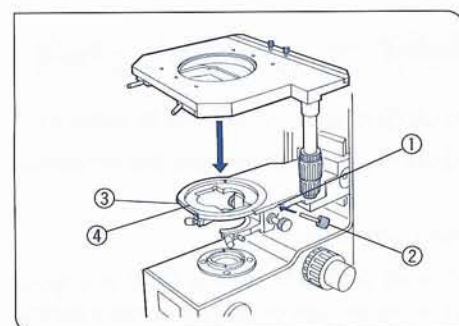

Fig. 3
3 Attaching the Stage Plate (Figs. 3, 4, 5)
- 1. Adequately loosen in a counterclockwise direction the centering screw ① (2 portions) on the stage using attached centering tool.
- 2. Next, loosen the locking screw ③ with dedicated Allen screwdriver (3 mm).
- 3. Align the front pun of stage holder ④ attached to the ring with the groove of stage, gradually insert the stage, and rotate the stage centering screw ① for a few rotations. Then tighten the locking screw lightly. (Fig. 3)